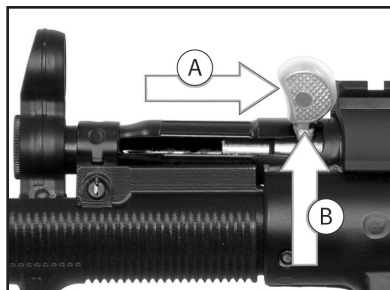

Fig. 27 – Lock charging handle
2. Pull charging handle all the way back and hold it (Fig. 27 Ⓐ).
3. Lock charging handle upwards in place into recess notch in receiver (Fig. 27 Ⓑ). The bolt group is held in rear position.